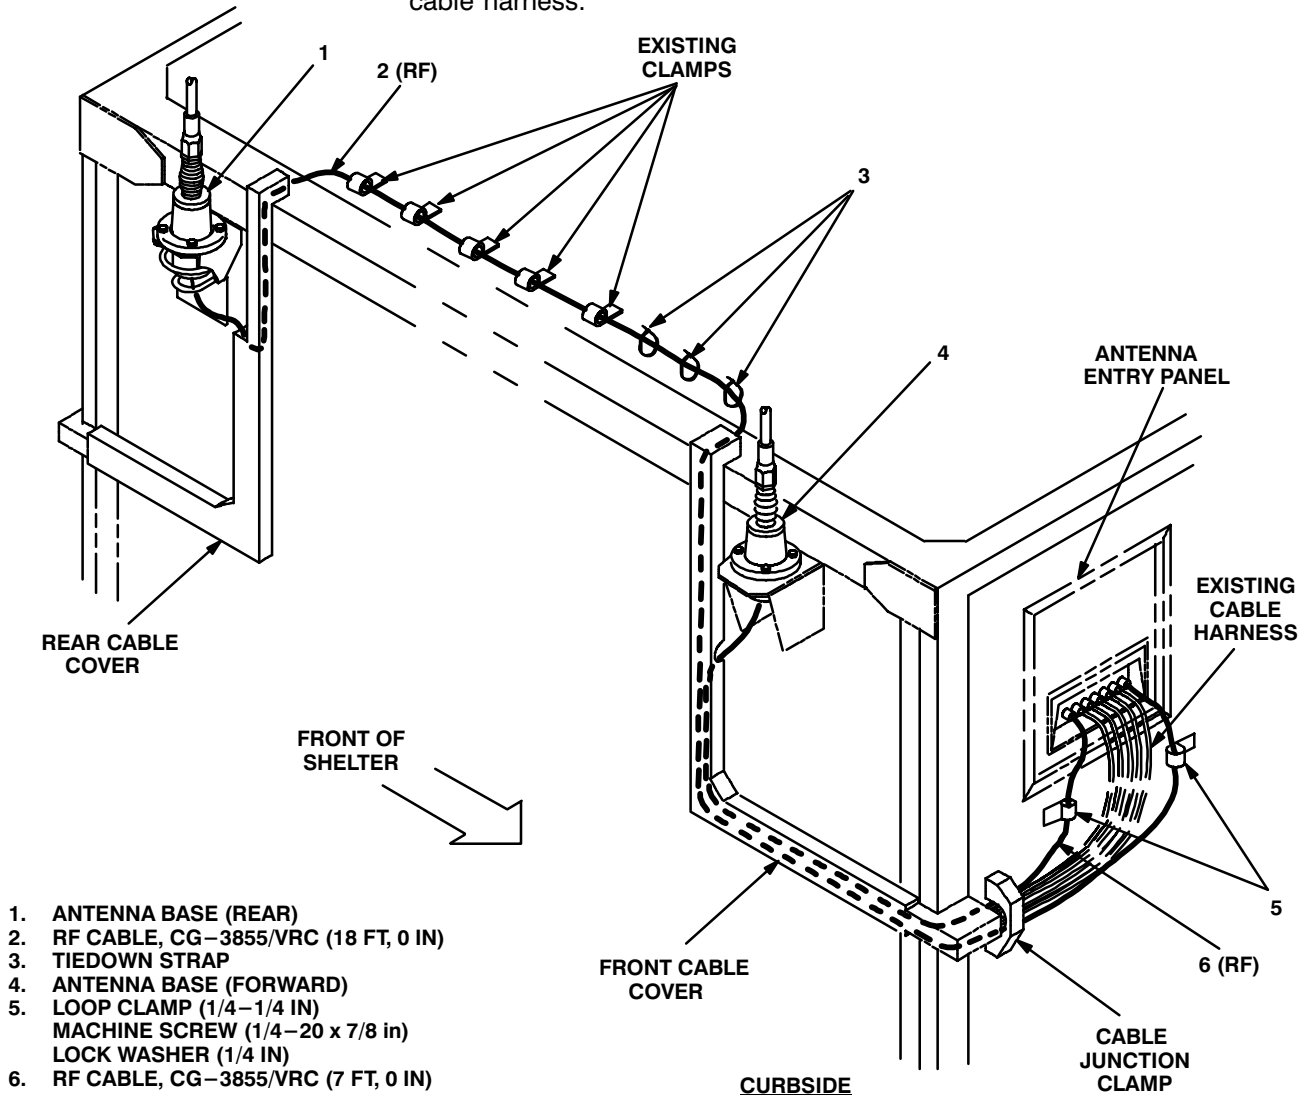

Figure 5-5 (1). Cable Installation: Exterior Cabling
a. Existing front and rear cable covers and cable junction clamp.	Temporarily remove. See figure 5-5 (1).
b. RF cable (2) connector P1.	Connect and secure to antenna base (1) connector J1.
c. RF cable (2).	Route forward across roof with existing cable harness.